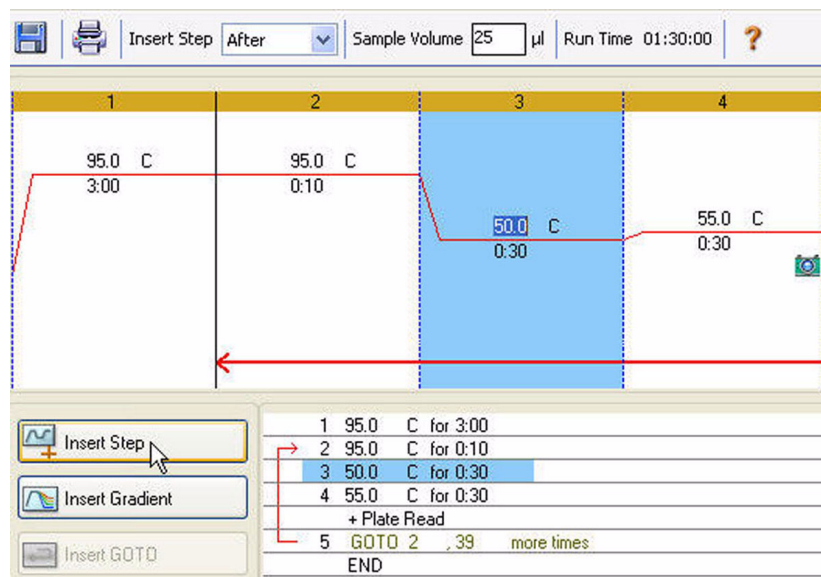

Figure 27. Protocol with inserted step.
- (Optional) Click **Step Options** to enter an increment or extend option to the step (page 32). Figure 27 shows the new step that was inserted after step 2.
In Figure 27, notice that the camera icon in the graphic view (top) shows that step 4 includes a plate read.